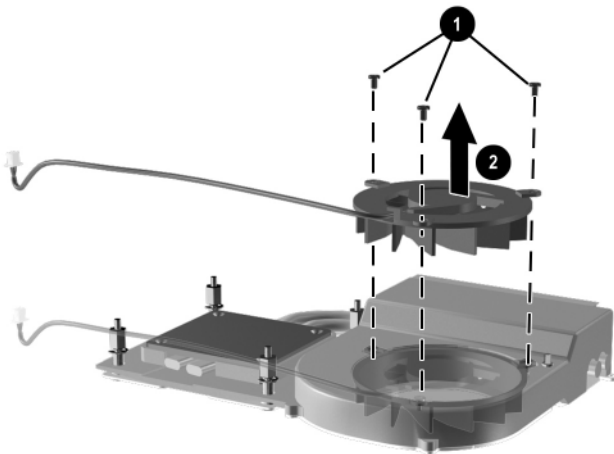

Figure 5-18. Removing the Fan
6. Remove the three PM2.0 $\times$ 4.5 screws **1** that secure the fan to the heat sink (Figure 5-18).